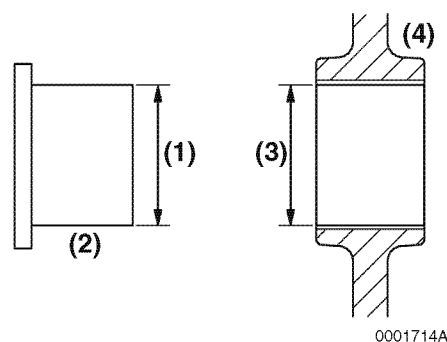

Figure 6-127
1. Measure the outside diameter (**Figure 6-127, (1)**) of the idler gear shaft (**Figure 6-127, (2)**). See *Idler Gear Shaft and Bushing* on page 6-11 for specifications.
2. Measure the inside diameter (**Figure 6-127, (3)**) of the idler gear bushing (**Figure 6-127, (4)**). See *Idler Gear Shaft and Bushing* on page 6-11 for specifications.